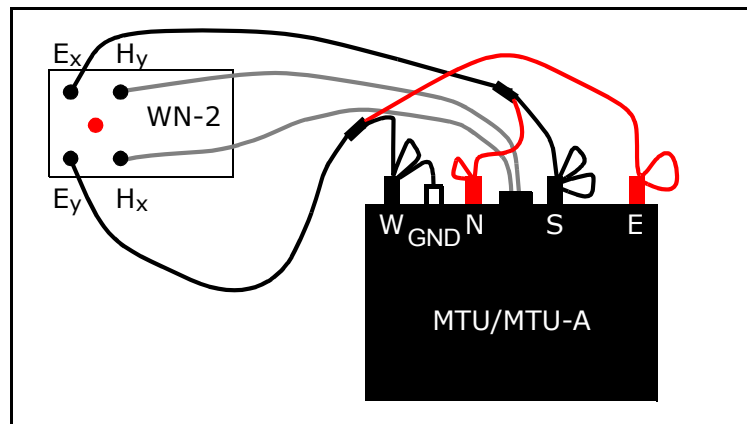

Fig. C-3: Setup for white noise test. (Battery and GPS antenna omitted for clarity.)
2. Using the special cable supplied with the WN-2, connect the  $E_x$  terminal of the WN-2 to the  $n$  and  $s$  terminals of the receiver: Connect all three lugs on the black wire to the  $s$  terminal and both lugs on the red wire to the  $n$  terminal. (See Fig. C-3.)
3. Connect the  $E_y$  terminal of the WN-2 to the  $GND$ ,  $E$  and  $w$  terminals of the receiver: Connect the lug at the end of the black wire to the  $GND$  terminal and the other two lugs to the  $w$  terminal. Connect both lugs on the red wire to the  $E$  terminal. (See Fig. C-3.)